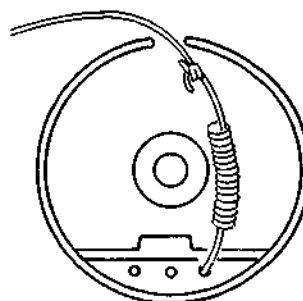

Fig. 2-15
- (c) Tie the cord to one end of the spring and hook the other end of the spring to the drive drum as shown in Fig. 2-15.